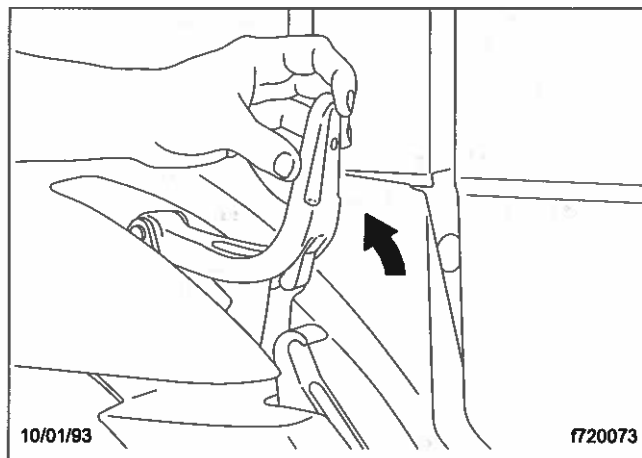

Fig. 3.6, Unlatch the Hood
2. Release both hood hold-down latches by pulling the ends up. See **Fig. 3.6**.